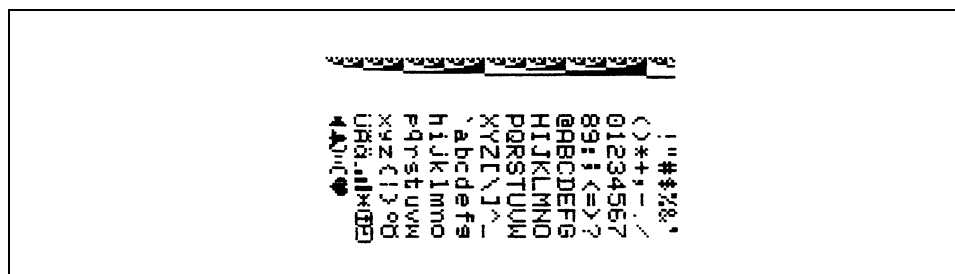

FIGURE 5-3
1. Select Room Number 4 and press the NIBP **START** key to activate the test. This test prints out a pattern on the recorder if a recorder module is attached. A strip similar to Figure 5-3 will be printed.